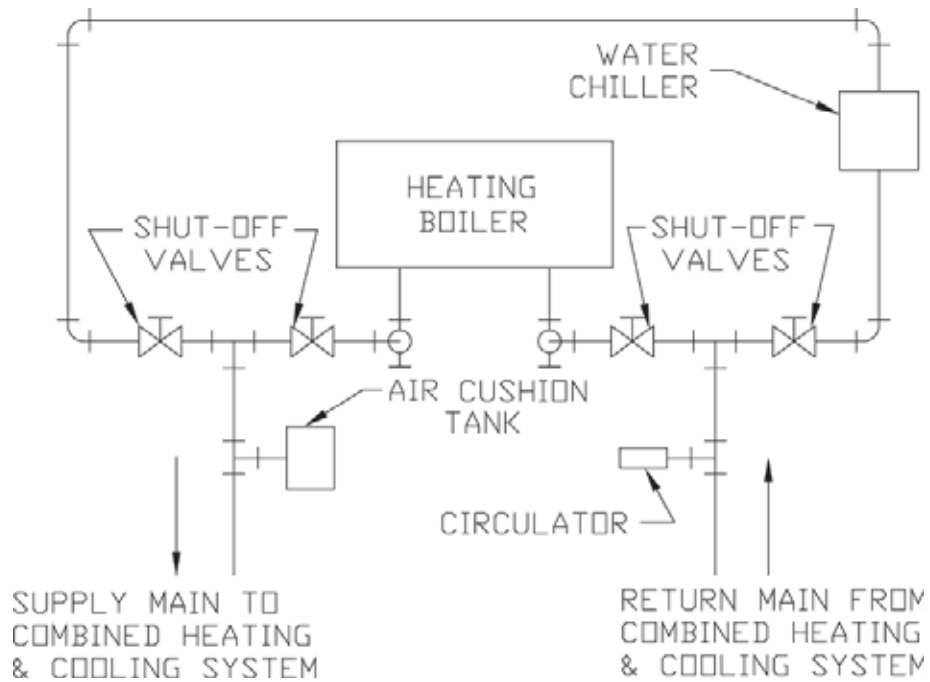

Figure 19: Recommended Piping for Combination Heating and Cooling (Refrigeration) System
1. If this boiler is used in connection with refrigeration systems, the boiler must be installed so that the chilled medium is piped in parallel with the heating boiler using appropriate valves to prevent the chilled medium from entering the boiler. See Figure 19. Also, consult I=B=R Installation and Piping Guides.